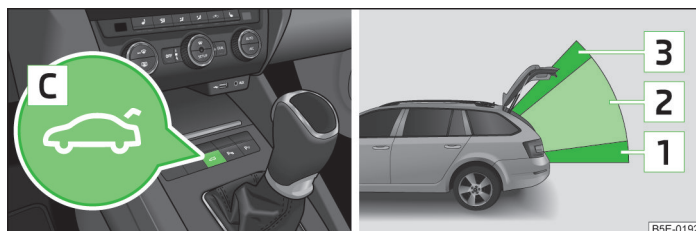

Fig. 22 Lid operation/operating areas
- With the button **C** in the centre console » Fig. 22.
The system distinguishes 3 operating areas where the function of the individual operating elements changes » Fig. 22. The end positions of the lid - fully closed in the secured lock and fully opened - differ as well.
Interrupted tone	Open (using the button  on the remote control key or the button C » Fig. 22 on page 45) Automatic closing of the lid » page 45 , ! in section Introduction